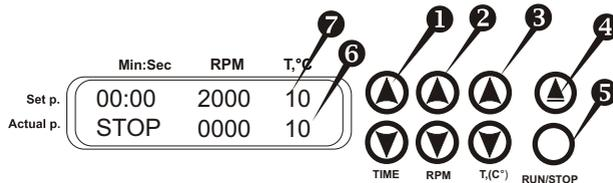

Fig.3 Control panel
- 4.3. Press the “▲” key (fig.3/④) and open the lid lifting it upwards with a hand (it is possible to open the lid only when the rotor is stopped).
- 4.6. With the “▲” and “▼” T,°C keys (fig. 3/ ①) set the required temperature (in range -10...+25 °C (RT), increment 1 °C). Note that the temperature can also be adjusted during operation.
Note! For better temperature transmission with the “▲” and “▼” RPM keys (fig.3/②) set the rotor speed 500 RPM. Press **RUN/STOP** key (fig. 3/⑤) to start centrifugation.
- 4.7. Check the set temperature achievement with the display. The actual temperature is shown in the lower line of the display (fig.3/⑦). Press **RUN/STOP** key (fig. 3/⑤) to stop centrifugation.
- 4.8. Press the “▲” key (fig.3/④) and open the lid lifting it upwards with a hand (it is possible to open the lid only when the rotor is stopped).
- 4.10. With the “▲” and “▼” **RPM** keys (fig. 3/ ②) set the required speed (100-4200 RPM, increment 100 RPM) depending on rotor. Note that the speed can also be adjusted during operation.
- 4.11. With the “▲” and “▼” **TIME** keys (fig. 3/ ①) set the required time interval (0-90 min, increment 1 min).
- 4.12. Press **RUN/STOP** key (fig. 3/ ⑤) to start centrifugation. Blinking indication RUN and current speed is displayed in the lower line. The timer in the upper line starts countdown after the set speed is achieved (stable indication RUN).
- 4.13. Centrifugation is stopped automatically after the set time elapses (while braking display shows blinking indication STOP). A sound signal is emitted after full stop of the rotor (press **RUN/STOP** key (fig.3/ ③) to stop the signal).
- 4.15. Clean the ice and remove condensation water from the chamber regularly with a soft cloth (see p.6.4). For easy cleaning the centrifuge chamber is equipped with a drain hole and hose (fig.3/ ②).